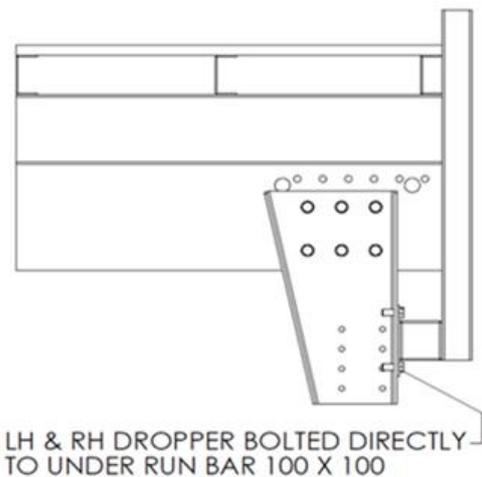

Figure 1
- Position the droppers on either side of the chassis ensuring that they are vertical. Ensure that the flanges of the dropper are up against the plates which come welded to the under run bar (See Figure 1) The droppers are designed for a range of vehicle floor heights. If desired they can be shortened by removing material from the bottom of the dropper. When satisfied that the droppers are positioned correctly mark the chassis using the pre-drilled holes in the dropper and drill the chassis. Assemble the droppers to the chassis using the 12 off - M16 x 40 bolts provided. With droppers in position drill through the under run bar plates and dropper flanges and secure with 4 off - M12 bolts provided.